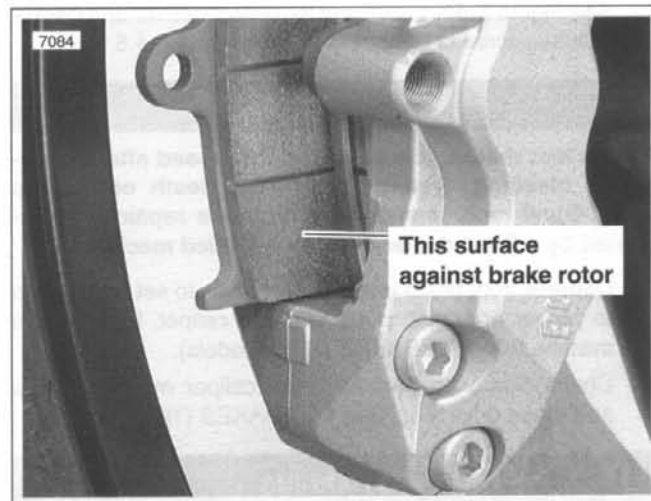

Figure 2-38. Installing Brake Pads
- a. See Figure 2-38. Insert brake pads from behind.